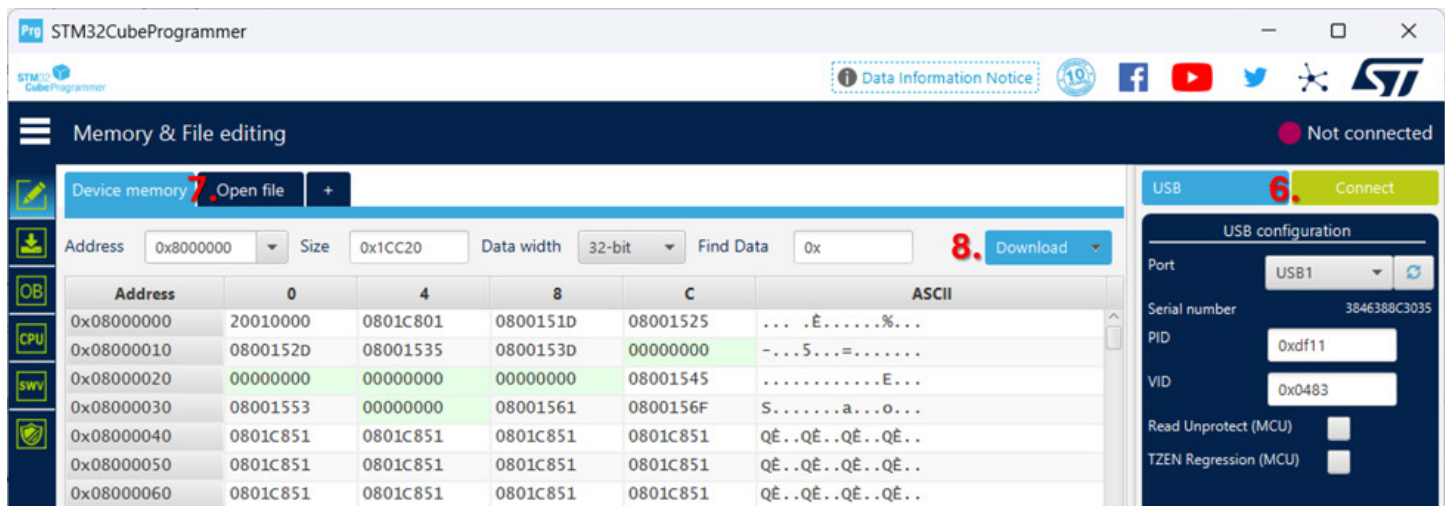

Figure 7: STM32CubeProgrammer Software GUI
6. On the right panel, in the dropdown menu, select USB, then click the Connect button (see Figure 7).
7. Click the Open File tab and browse to the firmware binary file (see Figure 7).
8. Click the Download button and wait for the download to complete (see Figure 7).